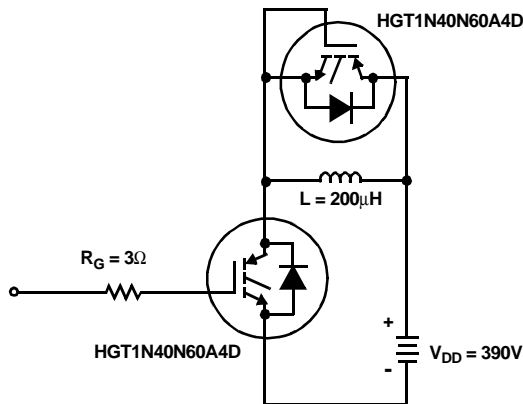

Figure 24. Inductive Switching Test Circuit
2. Values for two Turn-On loss conditions are shown for the convenience of the circuit designer.  $E_{ON1}$  is the turn-on loss of the IGBT only.  $E_{ON2}$  is the turn-on loss when a typical diode is used in the test circuit and the diode is at the same  $T_J$  as the IGBT. The diode type is specified in figure 24.